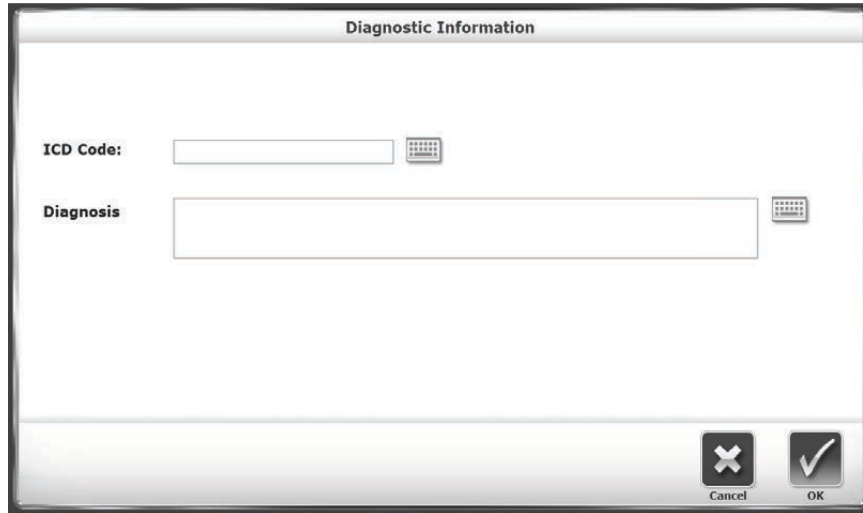

Figure 5.8. The Diagnostic Information screen.
- *Diagnosis* (Figure 5.8): Touch <Diagnosis> to enter diagnostic information for the patient, including an ICD code.